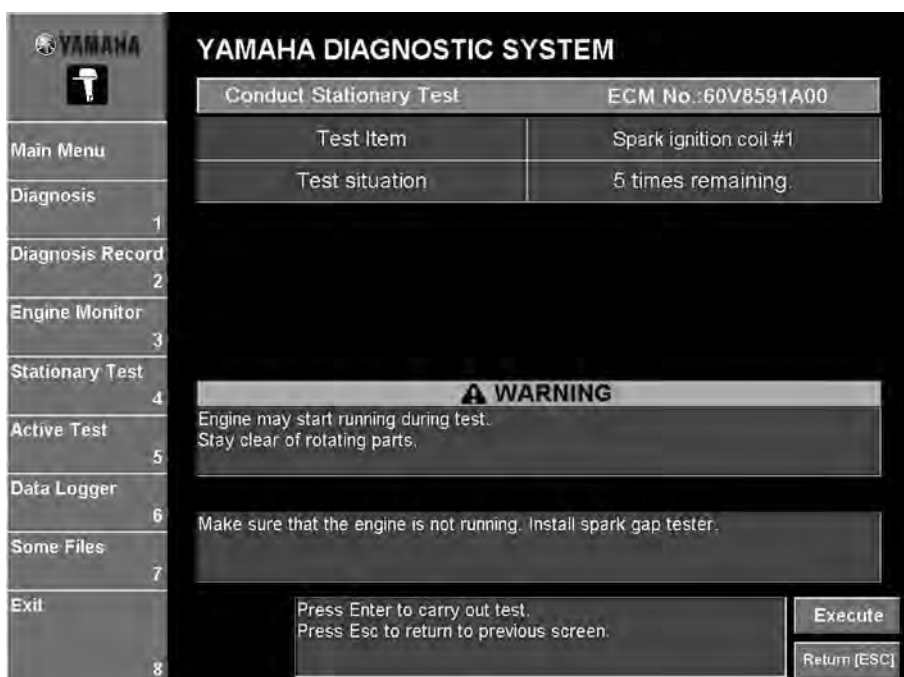

Fig. 67
5. Click the **Execute** button or press the Enter key on your keyboard. (Fig. 67)